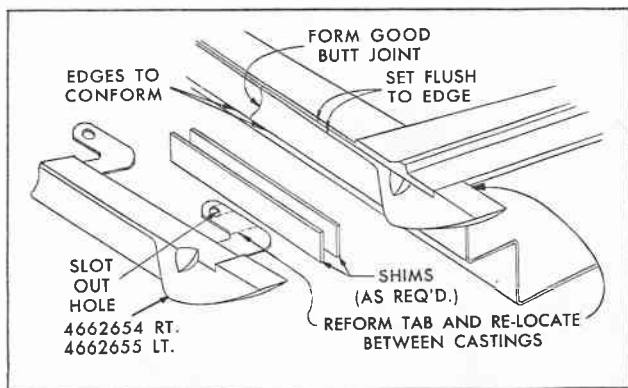

Fig. 7 View B in Fig. 5
2. If it is necessary to replace either of the small weatherstrips located at the lower corners of the lift gate, use a new part of the same design. (Lift Gate Lower Corner Weatherstrip, Part No. 4662654 Rt., 4662655 Lt.) (Fig. 7).
- b. As shown in View "B", Fig. 7, cut away the hole to form a slot in the integral retainer tab to permit outboard adjustment.
- c. Reform retainer tab slightly to permit out-board adjustment and insert tab between the two (2) castings.